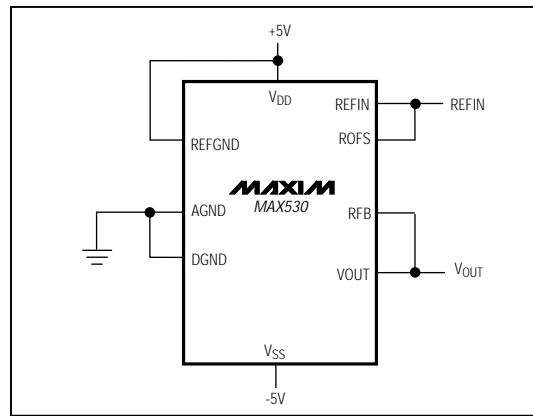

Figure 12. Four-Quadrant Multiplying Circuit
The MAX530 can be used as a four-quadrant multiplier by connecting ROFS to REFIN and RFB to VOUT and, using (1) an offset binary digital code, (2) bipolar power supplies, and (3) a bipolar analog input at REFIN within the range V_{SS} + 2V to V_{DD} - 2V, as shown in Figure 12.